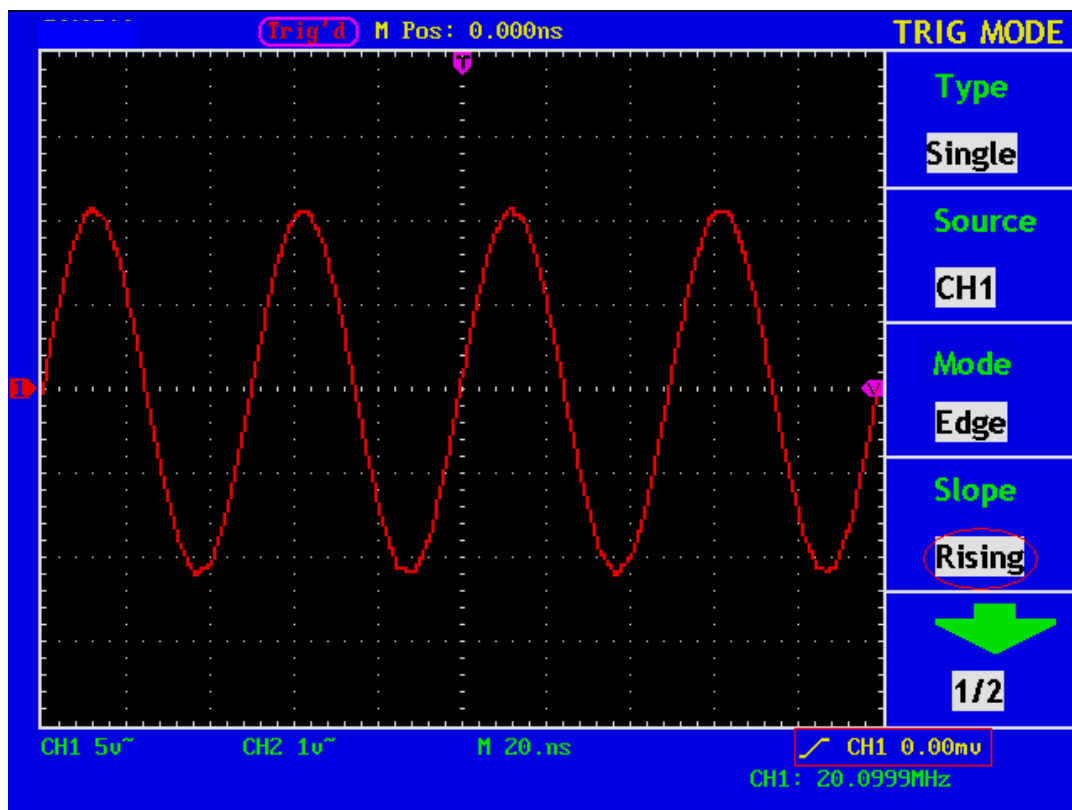

Fig. 34 Edge trigger (Rising Wave,the first menu)
- 5、Press “F4” to choose slope as “Rising”. Display as Fig.34